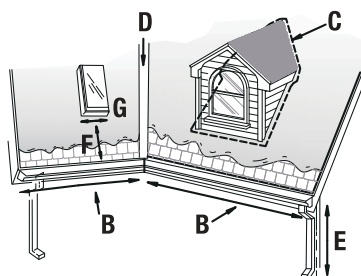

Figure B-3. Roof Measurements
STEP 1. For each area listed in Table B-5, measure the required dimensions (see Figure B-1 on page 17 and Figure B-3) and calculate the length of cable needed. Add each "area" calculation to determine the total cable length needed.
This example shows how to estimate the cable length needed for a limited problem roof area – a skylight (see Figure B-3 on page 17). For this roof, you would like to treat only the problem area underneath the skylight.